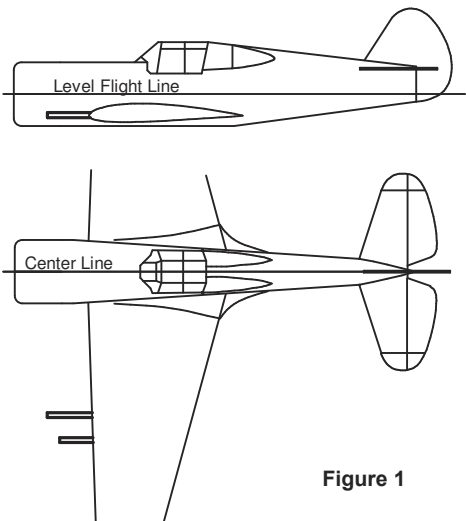

Figure 1
- The probes should point directly into the direction of flight (see Fig. 1).